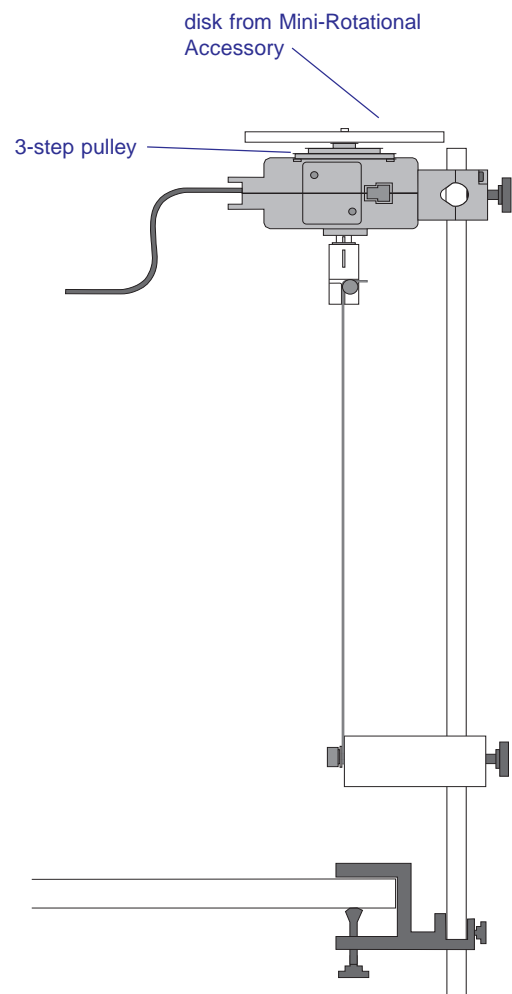

Figure 1.2
1. Attach the disk from the Mini-Rotational Accessory to the 3-step pulley with the thumbscrew (Figure 1.2).